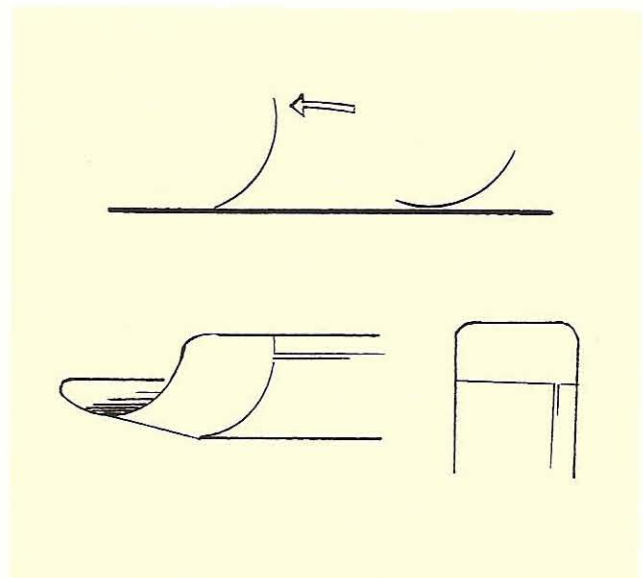

Fig 12.17 Rotating the gouge too far will hone away the all-important corners
- To sharpen the whole bevel, the corners must be included, but it is very easy to over-rotate the handle and sharpen them away (Fig 12.17). Extra care must be taken with the corners at the end of the stroke, so that the gouge is rotated neither too much nor too little. Additionally, all the finger pressure on the gouge tends to lie on the corners at the point where it changes direction, so pressure needs to be eased a little at this point.